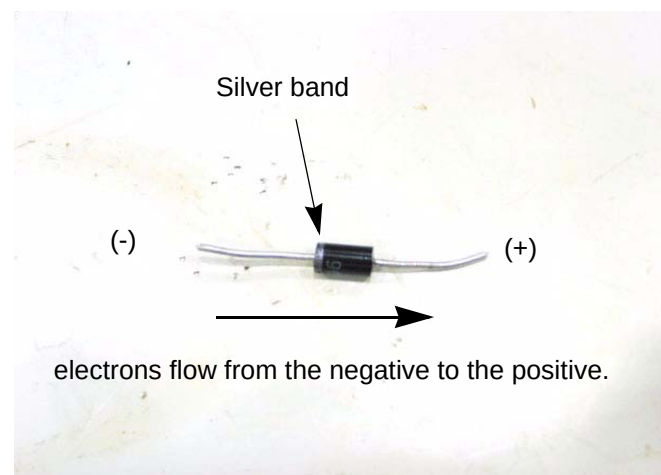

Figure 7.46
- What is a diode?: A diode acts like a one way valve, allowing current to flow in only one direction. See Figure 7.46.